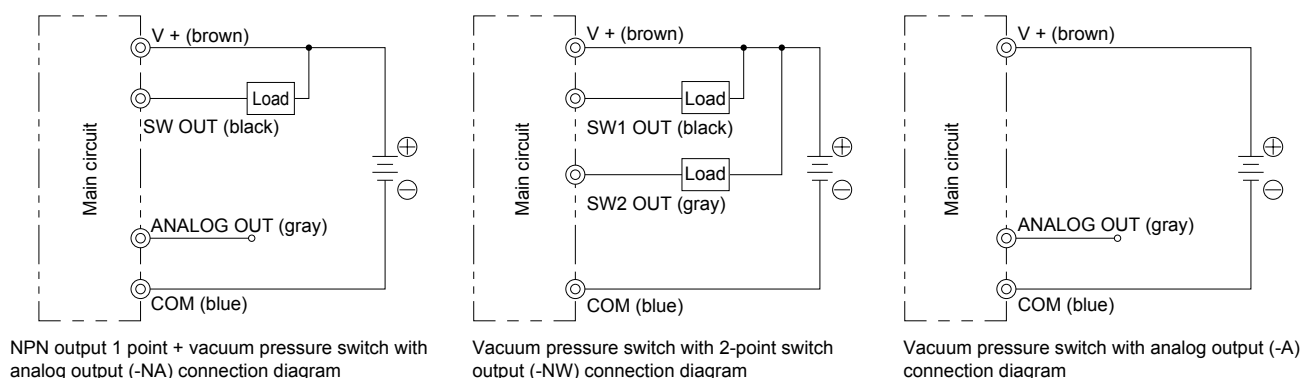

Figure 1. Connection method
- (1) Be sure to turn the power OFF before wiring.
- (2) When wiring, be sure to check the color and terminal output of the lead wire.
- (3) For connection, refer to the connection method in Figure 1.
- (4) Do not apply high tensile force or bending force to the extraction cable.
- (5) The cable may detach from the connector. When detaching the cable, hold the connector part and pull out the cable while pressing the stopper. Since load is applied to the switch base when detaching or attaching, we recommend that you avoid attaching and detaching whenever possible.